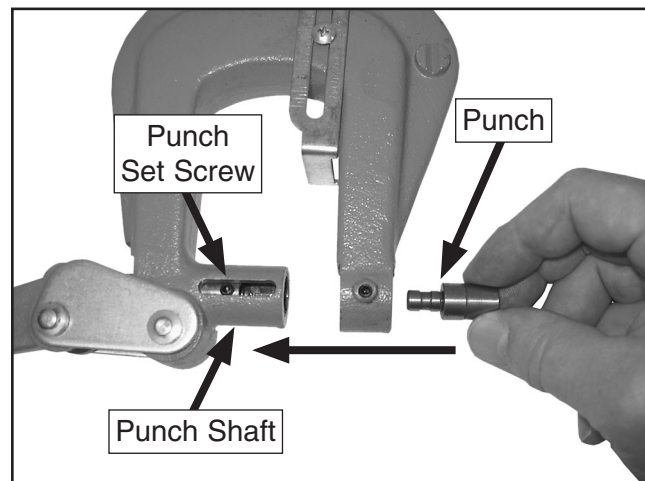

Figure 3. Inserting the punch.
2. Orient the punch as shown in **Figure 3**, then insert it up through the die hole and into the punch shaft. Tighten the set screw to secure it in place.